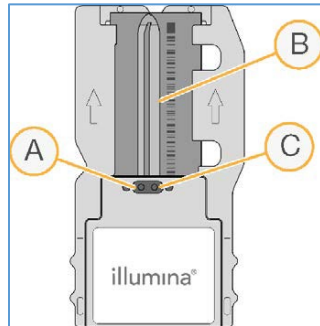

Figure 1. Flow cell. Port gaskets (A & C), imaging channels (B)
- 9.5.5. Wet a clean piece of lens paper with ethanol and clean the flow cell glass, making sure that the glass imaging area (B in Fig. 1 below) is free of streaks, lint and tissue fibers.
NOTE: Do not add ethanol directly to flow cell. Avoid getting ethanol on the flow cell gaskets (A & C in Fig. 1).